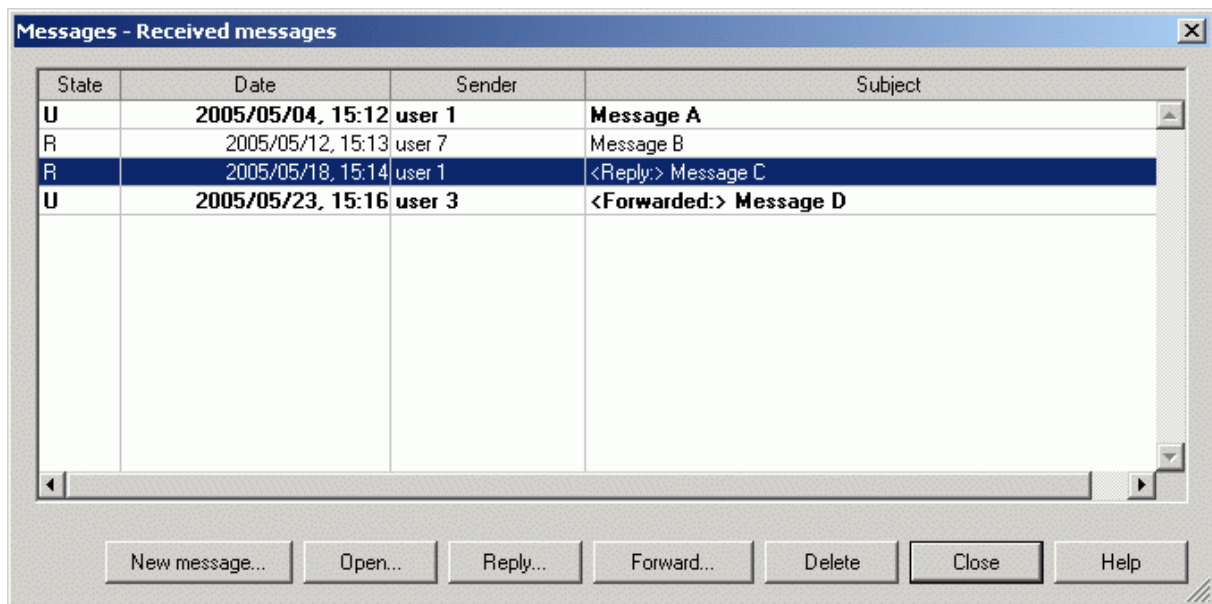

Figure 462: List of received messages
Reply to messages of an ADOxx user, by selecting them in the window "Messages - received messages" (see fig. 462) and clicking on the "reply" button.
Select in the window "Messages - received messages" (see fig. 462), the messages you want to forward to one or more ADOxx users and click on the button "Forward".
Clicking on the button "Open" will show the window "Messages - Received messages" (see fig. 462) with the new messages (see chap. 10.6, p. 749) in ADOxx.
The window "Messages - received messages" (see fig. 462) containing all received messages (see chap. 10.6, p. 749) will be opened in ADOxx.
The window "Messages - received messages" (see fig. 462) lists the received messages in a table.
**N** New messages, i.e. messages received just now or during the display of the window "Messages - received messages" (see fig. 462).
**Note:** New messages will be shown as unread messages (U) when closing the window "Messages - Received messages".